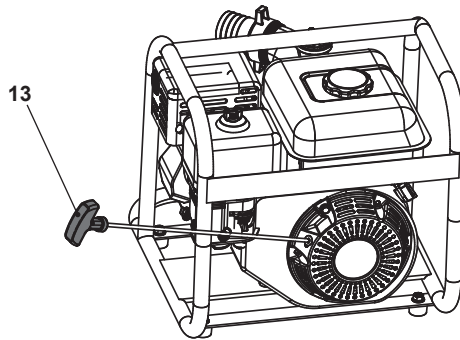

Fig. 10
- The recoil starter handle (13) is positioned at the rear side of the engine unit.
- Pull the recoil starter handle (13) lightly until you feel resistance then pull it rapidly. Do it again until the engine starts (Fig. 10).